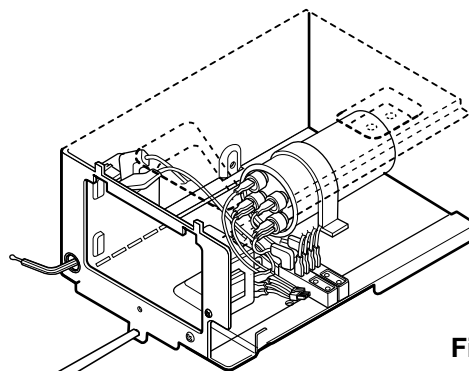

Figure 26
5. Re-install the components by referring to the above removal procedure. (See Figure 26)